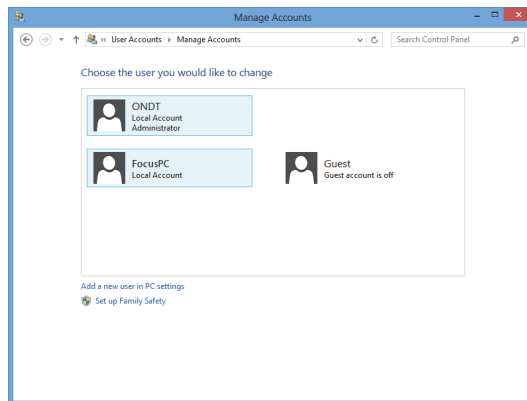

Figure 3-10 Selecting the FocusPC user account
8. In the **Manage Accounts** window, click **FocusPC** (see Figure 3-10 on page 57).